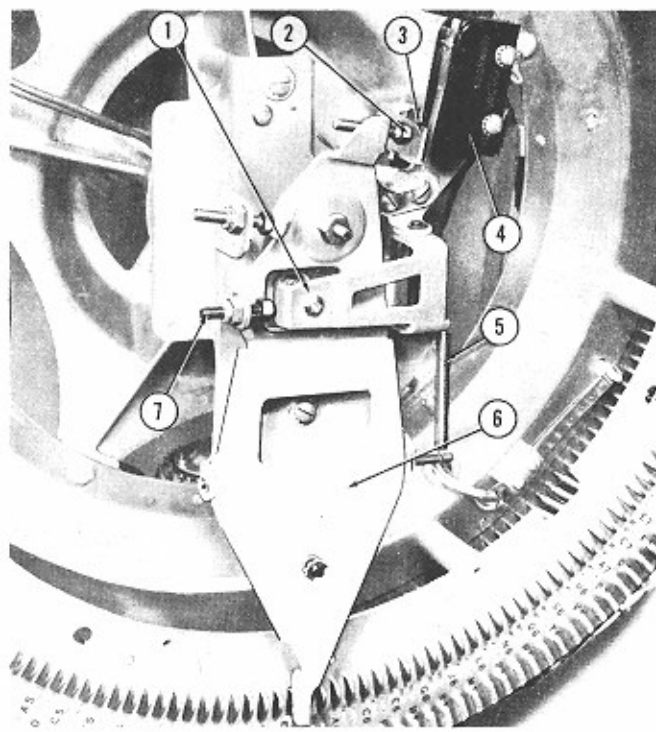

Fig. 56. CARRIAGE SWITCH FOR REVERSING RELAY
(Fig. 56)
(1) With the record carrier positioned at, preferably, B1 and held against the proper back-stop pawl, the selector crank stop adjustment (Item 7, Fig. 56) should be free enough to allow adjustment of the carriage switch actuating screw. (Item 2).
(2) Set the carriage switch actuating screw to produce switch action, when the selector crank is moved in a clockwise direction, at a point where the trailing side of the lip of the selector crank is at the center of the B1 selector latch pin but not further than 1/32" beyond the side of the B1 selector latch pin.
(3) There should be 1/64" to 1/32" over-travel, as measured at the tip of the selector crank, before the selector crank stop adjustment is engaged by the selector stop bracket, (Item 1, Fig. 56).